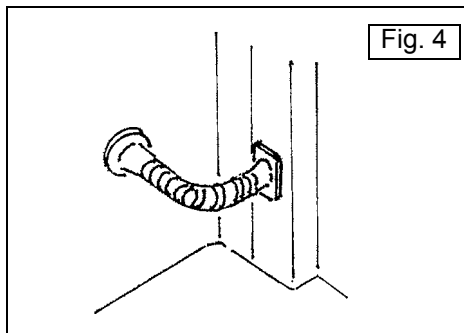

Fig. 4
11. Equalizer bar side shaft (1 place) (Fig. 4)
★ Before measuring the internal pressure, ensure that the grommets shown in Fig. 4 are fitted securely.
• Fig. 4 is the same as Fig. 21 in "Assembly procedure A-11".